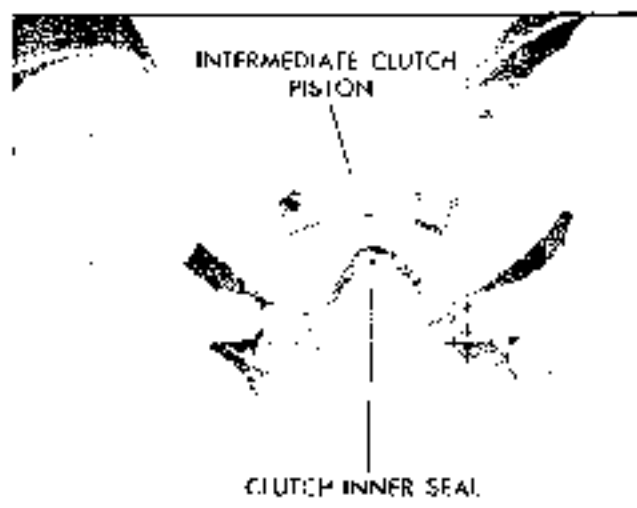

Fig. 7E-110 Installing Intermediate Clutch Inner Seal
1. Install new inner and outer seals on piston with lip of seal facing away from spring pocket (Fig. 7E-110 and 7E-111).
sockets of piston into bored areas of center support (Fig. 7E-112).